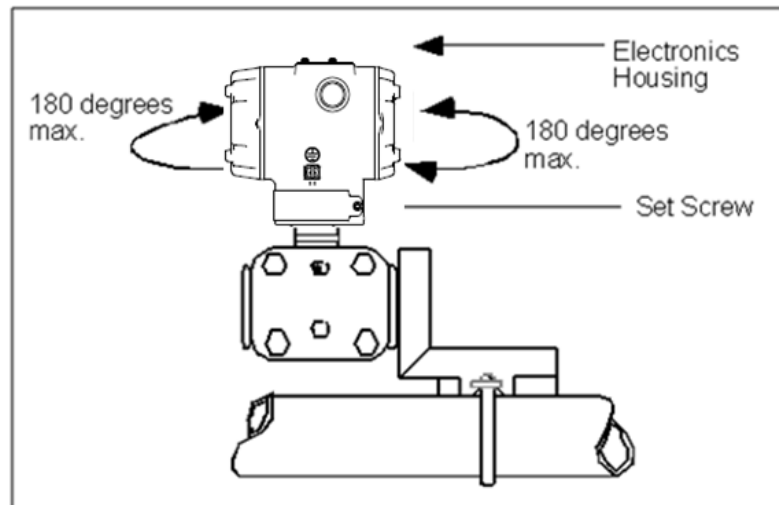

**Figure 47 – ST 700 Basic Transmitter - Inline Model Mounted to an Optional Bracket**
**Example:** Inline model mounted to an optional angle bracket. See Figure 47.